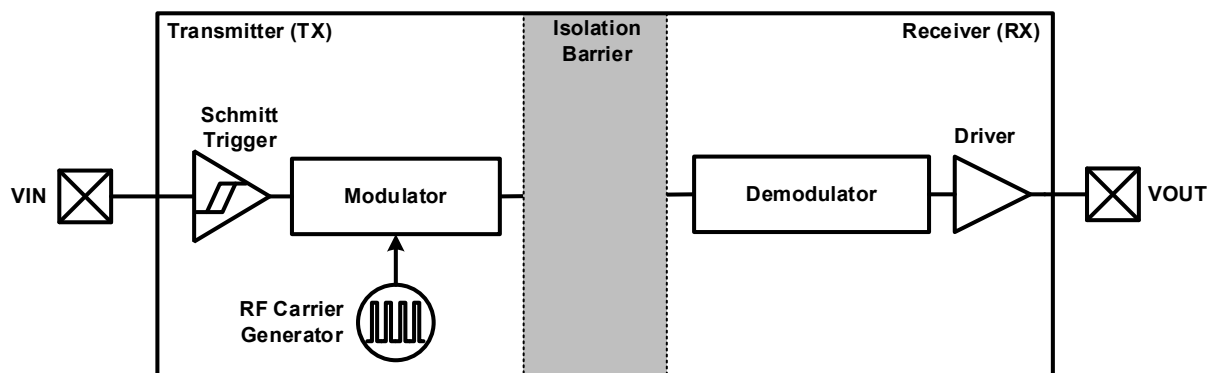
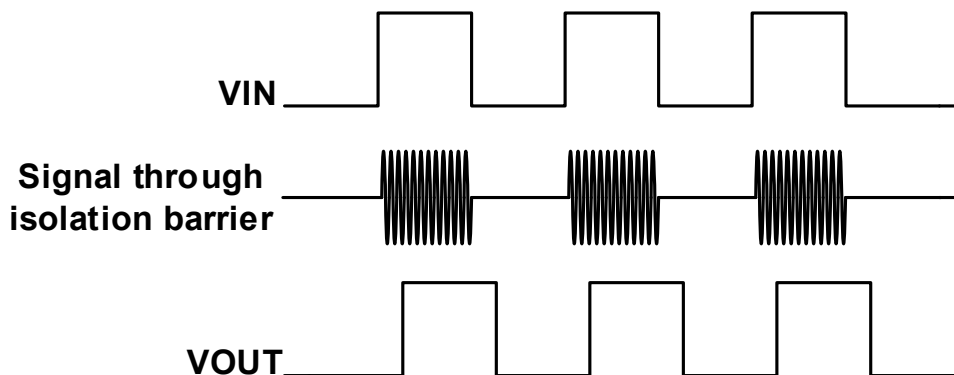

Figure 9-1 Functional Block Diagram of a Single Channel
Figure 9-2 Conceptual Operation Waveforms of a Single Channel
The CA-IS371x/2x family of devices use a simple ON-OFF keying (OOK) modulation scheme to transmit signal across the SiO2 isolation capacitors that provide a robust insulation between two different voltage domain and act as a high frequency signal path between the input and the output. The transmitter (TX) modulates the input signal onto the carrier frequency, that is, TX delivers high frequency signal across the isolation barrier in one input state and delivers no signal across the barrier in the other input state. Then the receiver rebuilds the input signal according to the detected in-band energy. This simple architecture offers a robust isolated data path and requires no special considerations or initialization at start-up. The capacitor-based signal path is fully differential to maximize noise immunity, which is also known as common-mode transient immunity. Advanced circuitry techniques are applied for better EMI introduced by the carrier signal and IO switching. The capacitively-coupled architecture provides much higher electromagnetic immunity compared to the inductively-coupled one. And OOK modulation scheme eliminates the missing-pulse error that occurs in the pulse modulation method. A simplified functional block diagram and conceptual operation waveforms of a single channel is shown in Figure 9-1 and Figure 9-2.